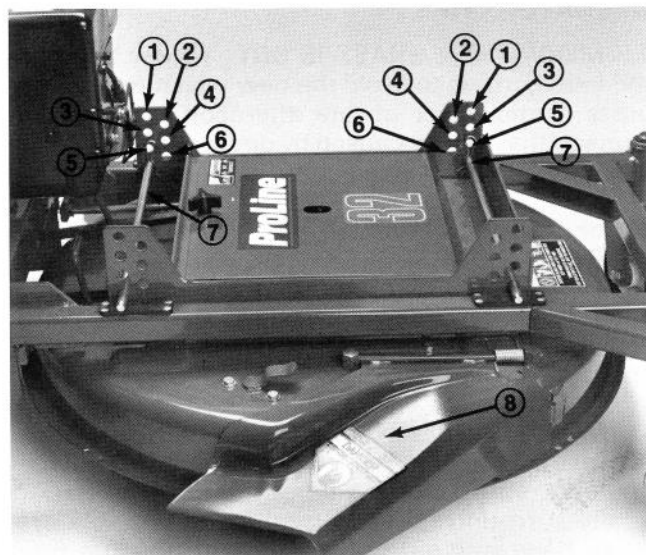

Figure 5
The height-of-cut is adjustable from 1 to 4 inches (25 to 102 mm) in 1/2 inch (13 mm) increments by relocating support rods in different hole locations in brackets at each corner of the cutting unit (Fig. 5). Stop engine before making height-of-cut adjustment.
1. Remove (4) hair pin cotters securing support rods in brackets (Fig. 5).
The grass deflector (Fig. 5) is a safety device that diverts grass and other foreign objects being discharged downward. Without deflector mounted in place on the cutting unit and spring loaded hinges holding deflector is down position, the blades could hurl grass and foreign objects out the discharge opening with enough force to cause injury or property damage. If the grass deflector or spring hinges are worn, broken or damaged, repair or replace the affected part(s). Do not operate cutting unit without deflector or entire grass collector mounted on the cutting unit. Always be sure the deflector chute is in the lowest position.
1. Raise grass deflector (Fig. 5).
NEVER remove the grass deflector (Fig. 5) from the mower housing. If the discharge cover under the grass deflector is removed in order to side discharge or bag, the grass deflector routes discharged material down toward the turf. If the deflector is ever damaged, replace it. Without the deflector, discharge cover or entire grass catcher assembly mounted in place, discharged material could cause personal injury or blade contact could occur.